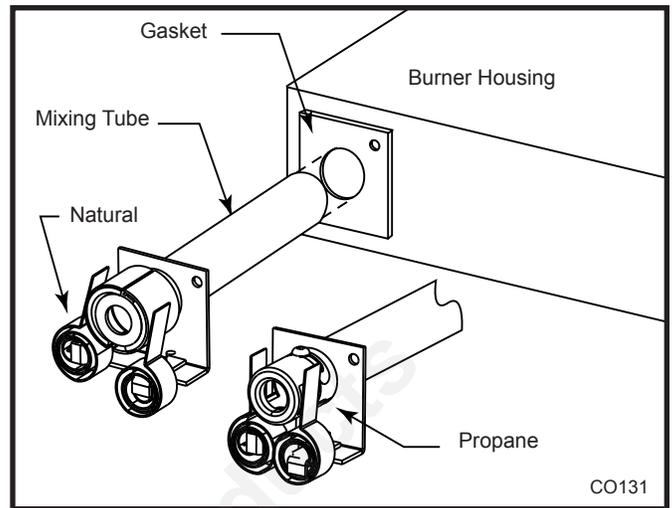

Fig. 68 Replace mixing tube and gasket.
- Replace the mixing tube on the burner housing by removing the two (2) screws that secure the mixing tube to the burner housing assembly. Remove the old gasket behind the mixing tube. (Fig. 68) **NOTE: The mixing tube for propane gas has only two bimetallic springs that are in the closed position at cold start. The mixing tube for natural gas has two spring/shutter collar assemblies that are in the closed position at cold start. Make sure the correct mixing tube is used for conversion.**
- 6. Replace the mixing tube on the burner housing by removing the two (2) screws that secure the mixing tube to the burner housing assembly. Remove the old gasket behind the mixing tube. (Fig. 68) **NOTE: The mixing tube for propane gas has only two bimetallic springs that are in the closed position at cold start. The mixing tube for natural gas has two spring/shutter collar assemblies that are in the closed position at cold start. Make sure the correct mixing tube is used for conversion.**